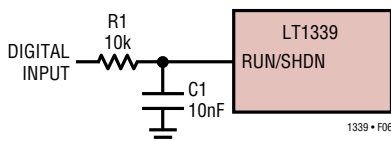

Figure 6. Digital Input Shutdown Integration Control
The circuit in Figure 6 is an example of a digital control integration stage at the RUN/SHDN input. The integrator has a $\tau = (10)(10^3) \cdot (10)(10^{-9}) = 100\mu\text{s}$. This circuit technique, however, delays initiation of controller shutdown about 125 μs from the reception of the shutdown signal (5V to 0V transition).